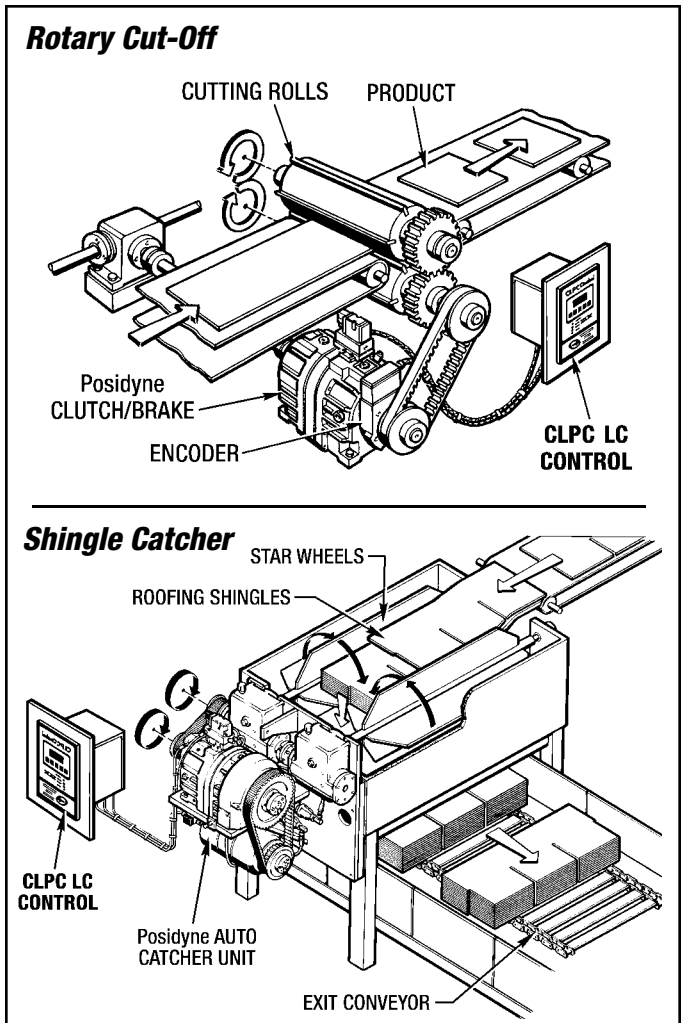

Figure 1.1 - Single Revolution Applications
**A. Single Revolution** - Two typical applications for a single revolution operation would be a Rotary Cut-off and a Shingle Catcher. (See Figure 1.1)